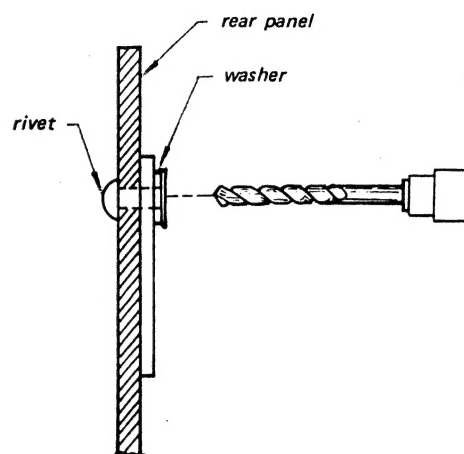

Fig. 2-6 Rivet replacement
- (a) Remove the rear panel, then bore out the rivet using a drill bit slightly larger in diameter than the rivet. See Fig. 2-6.